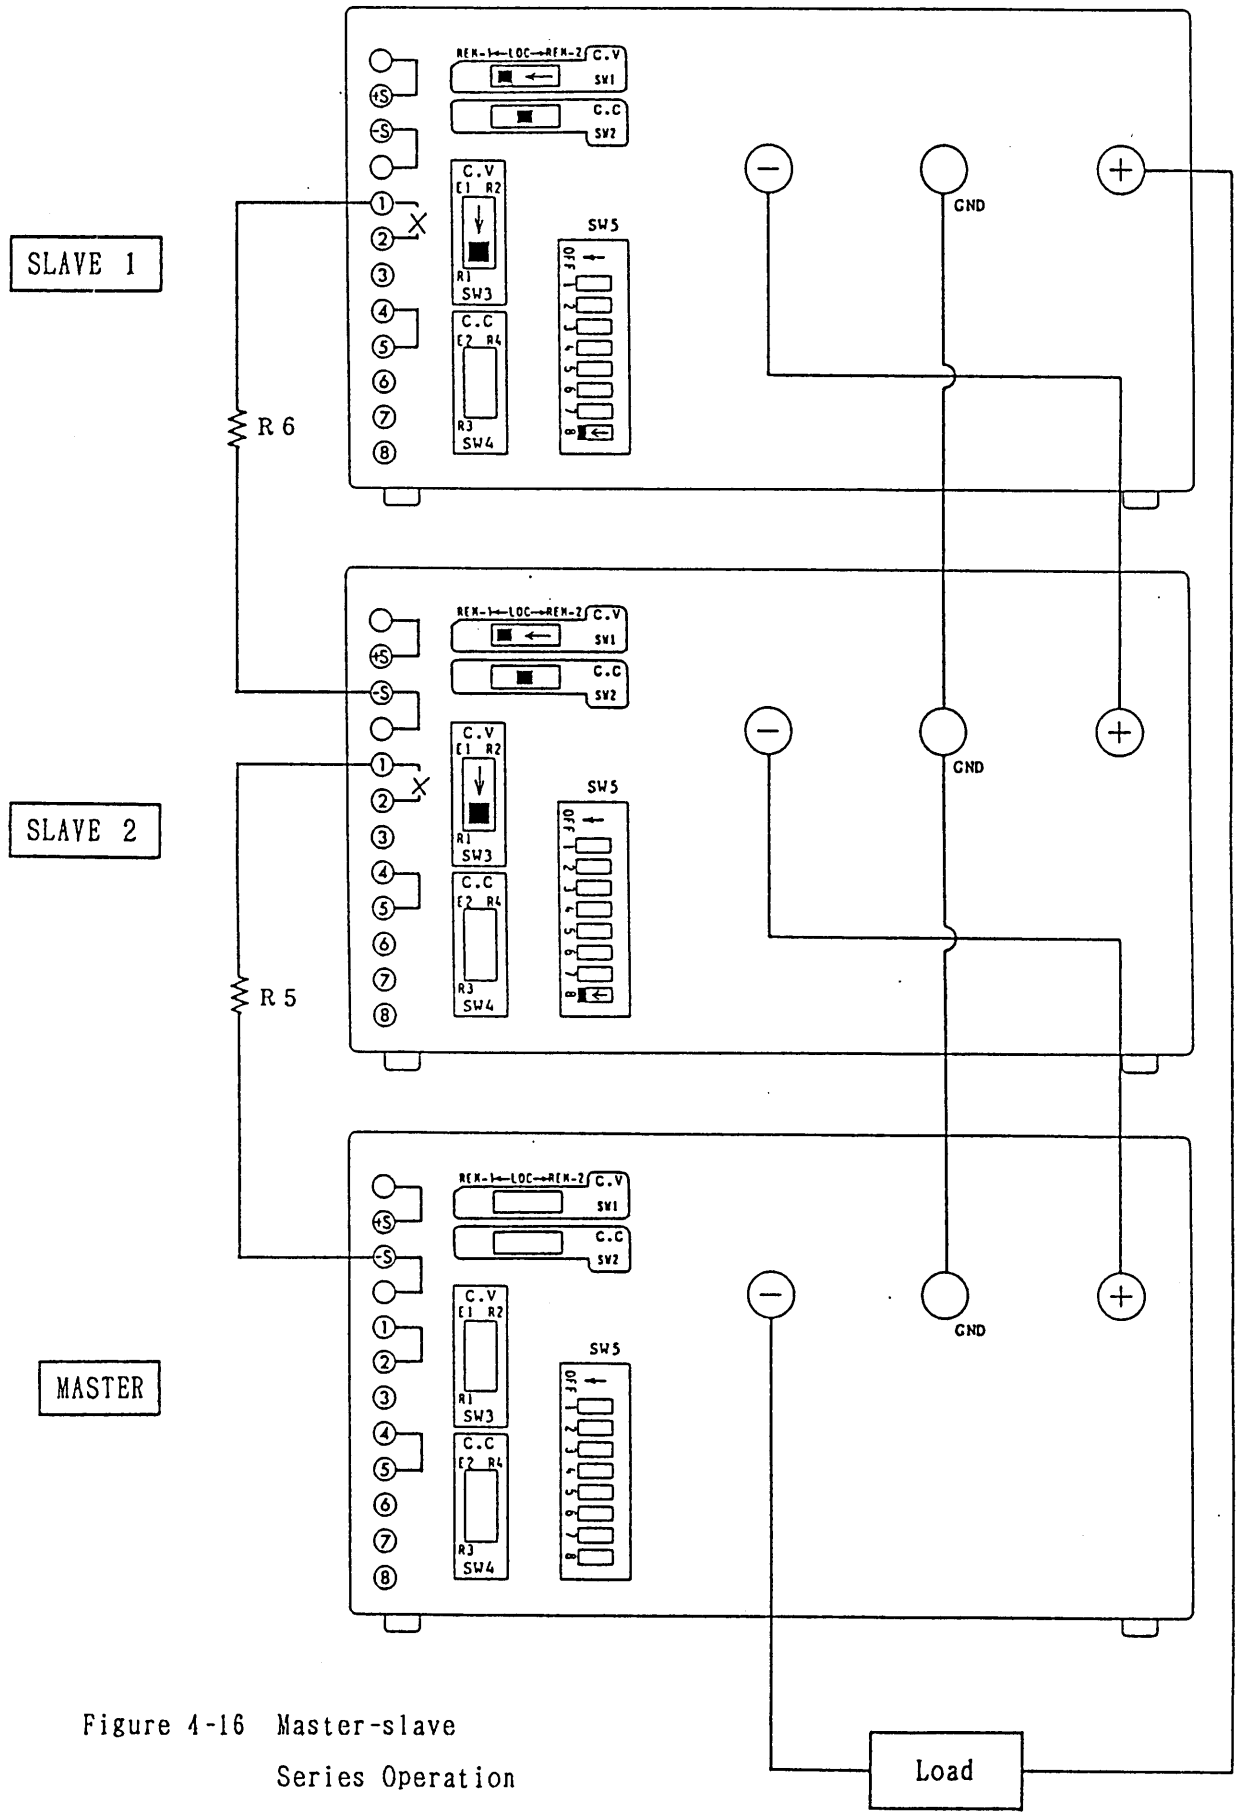

Figure 4-16 Master-slave
- (4) Connect in series the outputs of all units.
- (5) Connect together the GND terminals of all units, and connect it to a line of the voltage you may require.
- (6) Turn fully clockwise the current setting knob of each slave unit.
- (7) Throw the SW1 switch of the rear panel of each slave unit to the REM-1 position.
- (8) Throw the SW3 switch of the rear panel of each slave unit to the R1 position.
- (9) Set the 8th element of SW5 of the rear panel to the OFF state.
- (10) Regarding the switches for which no settings are specified in Figure 4-16, set them to the standard states as shown in Figure 2-23 (See Section 2.4.) or to appropriate states for respective modes (See Sections 4.1 through 4.11.).